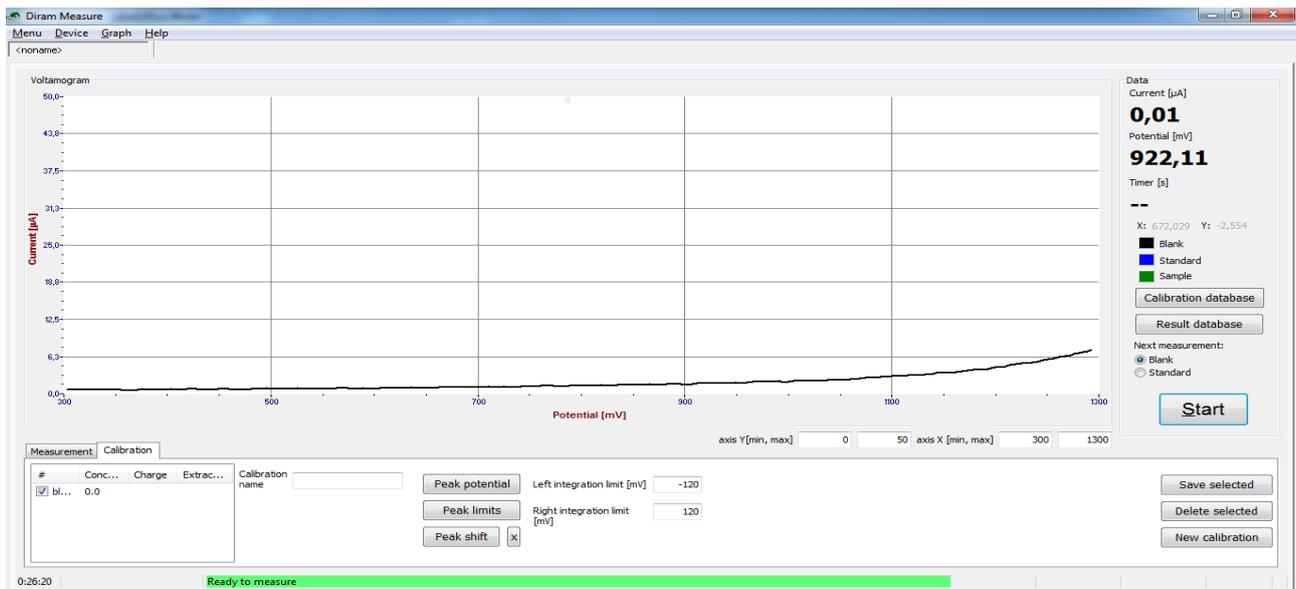

Figure 5: Result for electrolyte – **blank**.
7. The result is the black curve depicted in **Fig. 5**. Wipe the electrode. Repeat the measurement. (It is recommended to cancel the first measurement in situations when the electrode has been exposed to air for long periods.)